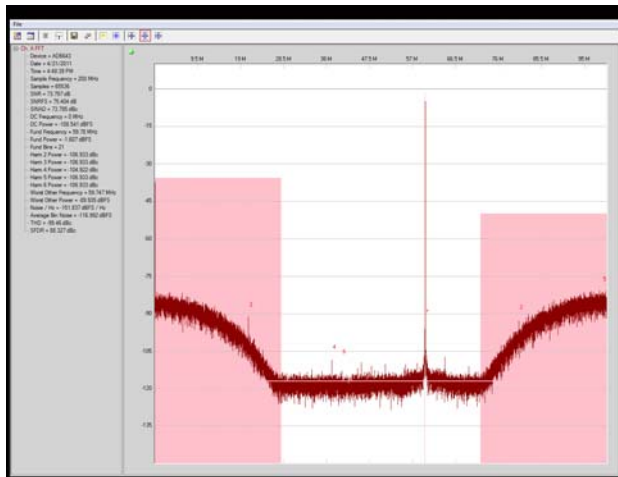

Figure 17. Graph Window of VisualAnalog, NSR Enabled, AD6672
- The result should show an FFT plot that looks similar to Figure 17.